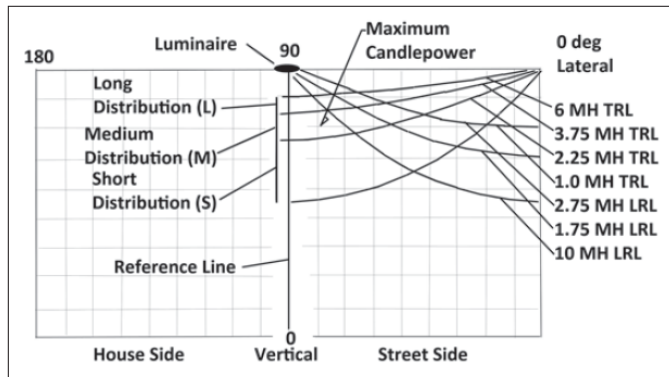

Figure E1. Recommended vertical light distribution boundaries on a rectangular coordinate Grid (representation of a sphere). Dashed lines are isocandela traces.
E1.2 Classification Several methods have been devised for showing the light distribution pattern from a luminaire (see **Figures E1 - E5**). For practical operating reasons the range in luminaire mounting heights may be kept constant. Therefore, it becomes necessary to have several different light distributions in order to effectively light different roadway widths, using various luminaire spacing distances at a particular luminaire mounting height. All luminaires can be classified according to their lateral and vertical distribution patterns. Different lateral distributions are available for different street widths to mounting height ratios; and different vertical distributions are available for different spacing-to-mounting height ratios.
E1.4 Classification of light distribution should be made on the basis of an isocandela diagram which, on its rectangular coordinate grid, has superimposed a series of Longitudinal Roadway Lines (LRL) in multiples of mounting height (MH), and a series of Transverse Roadway Lines (TRL) in multiples of mounting height. The relationship of LRL and TRL to an actual street, and the representation of such a web, are shown in **Figures E1 - E5**. The minimum information that should appear on such an isocandela diagram for classification is as follows:
Lateral light distributions are divided into three groups: short (S), medium (M), and long (L). See **Figures E1 and E4**.